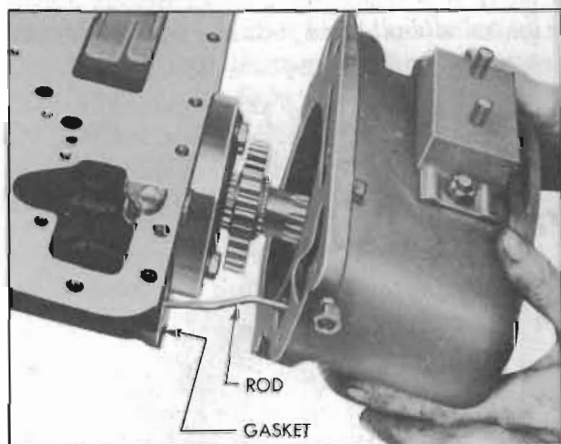

Figure 4-136—Installing Rear Bearing Retainer
4. Install rear bearing retainer and gasket on transmission case. See figure 4-136. Use lockwashers on attaching bolts and tighten bolts evenly to 35-40 ft. lbs. torque.